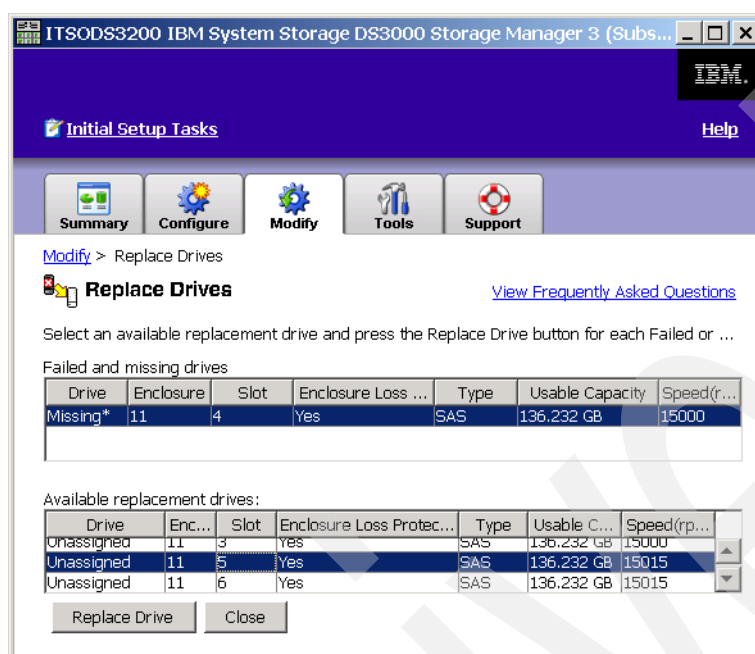

Figure 11-28 Replace Drives
1. Click **Replace Drives** in the Modify tab (Figure 11-1 on page 222) if some disk drive is missing or failed in your DS3000. The list of eligible replacement disk drives appears in the Replace Drives window (Figure 11-28).
Click **OK** and a new window (Figure 11-28 on page 239) shows the remaining missed or failed drives to replace, or no drives for replacement are displayed. Continue with the replacement or click **Close** to return to the Modify tab.